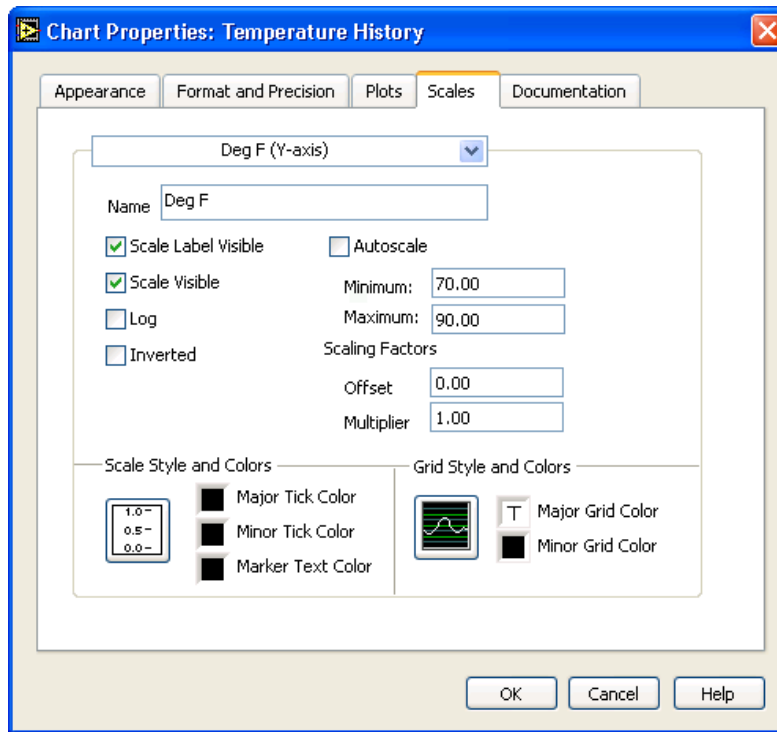

Figure 7.9
- e. In the Scales tab, select the Deg F (Y-axis) in the top pull-down menu. Set the scale options as shown in Figure 7.9.